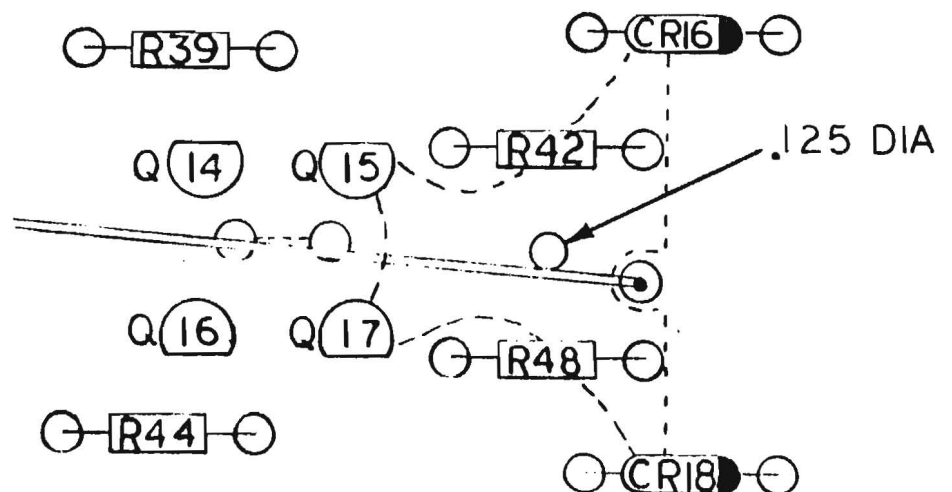

FIGURE 2
- a. Locate the ground plane between R42 and R48 (lower left quadrant of Logic board), on the rear side of board. See Figure 2, below.
- b. Drill .125 Dia. hole through ground plane, ensuring that hole does not cut any traces on component side of board. See Figure 2, below.